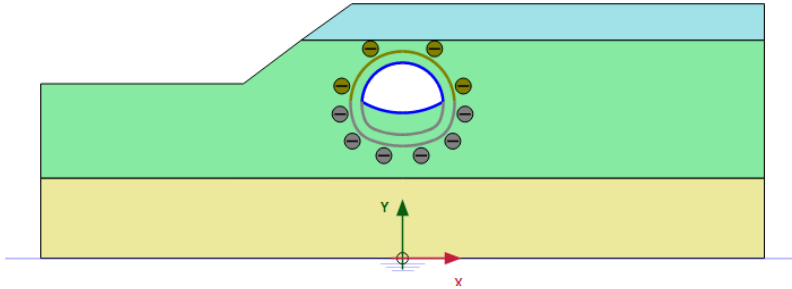

Figure 7.7 Configuration of Phase 2
- In the *Staged construction* mode activate the lining and interfaces of the part of the tunnel excavated in the previous phase (Figure 7.7).